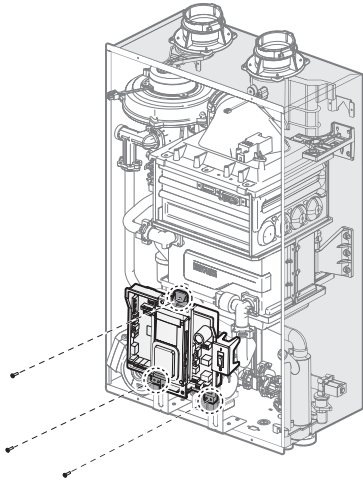

Figure 1. NCB Series Front cover
2. Using a Phillips screwdriver, remove 4 screws (2 from the top and 2 from the bottom) of the front cover assembly to gain access to the internal components. See Figure 1 for illustration of the front cover on the unit.